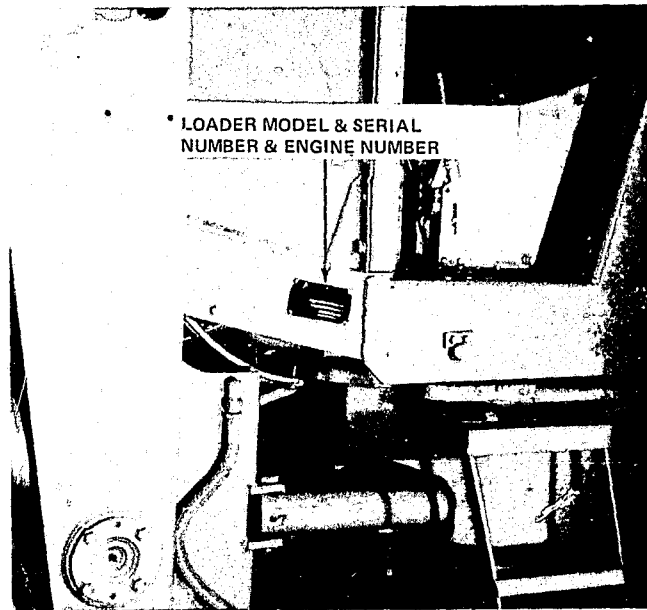

Figure 1
- The serial number is die stamped into the right rear side of the torque housing flange. (See Figures 1 and 2)